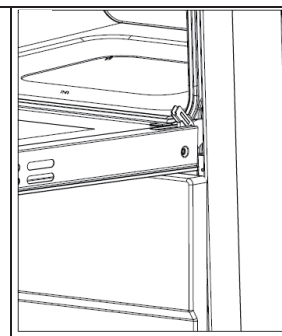

Fig.1
- Open the door to the full extent(fig.1);